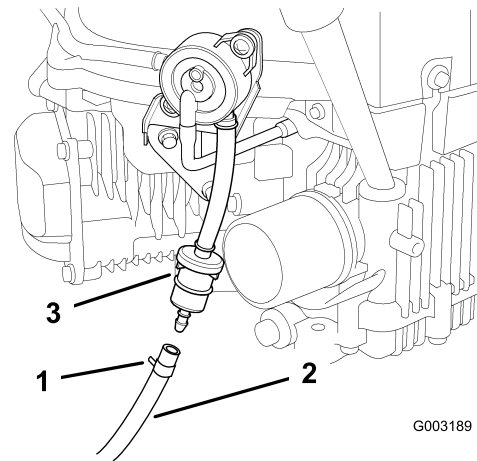

Figure 42
5. Loosen the hose clamp at the fuel filter and slide it up the fuel line away from the fuel filter (Figure 42).
6. Pull the fuel line off of the fuel filter (Figure 42).
8. Install the fuel line onto the fuel filter. Slide the hose clamp close to the fuel filter to secure the fuel line (Figure 42).
4. Squeeze the ends of the hose clamps together and slide them away from the filter (Figure 42).
6. Install a new filter with the flow direction arrow coming from the fuel tank and pointing to the engine and move the hose clamps close to the filter (Figure 42).